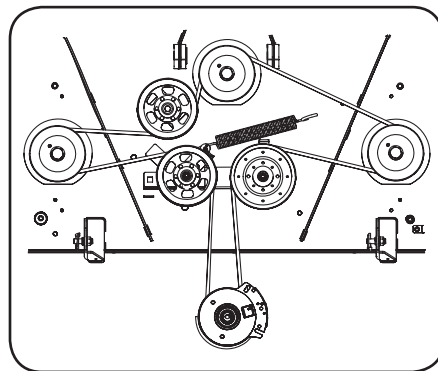

Figure 4-20
5. Install the new belt around the spindle pulleys as shown and reinstall the belt covers. See Figure 4-20.